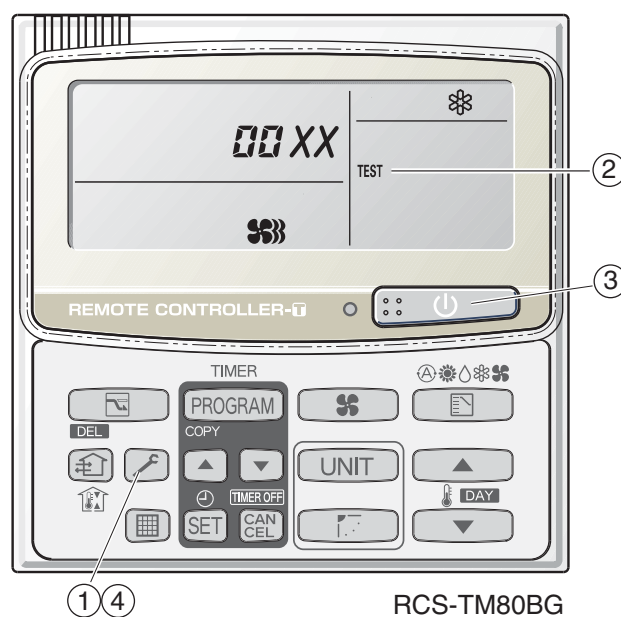

Fig. 3
- ① Press and hold the  button for 4 seconds or longer.
- ② “Test” appears on the remote controller LCD display (Fig. 3).
- ③ Start operation.
- ④ Press the  button to return to normal remote controller display.